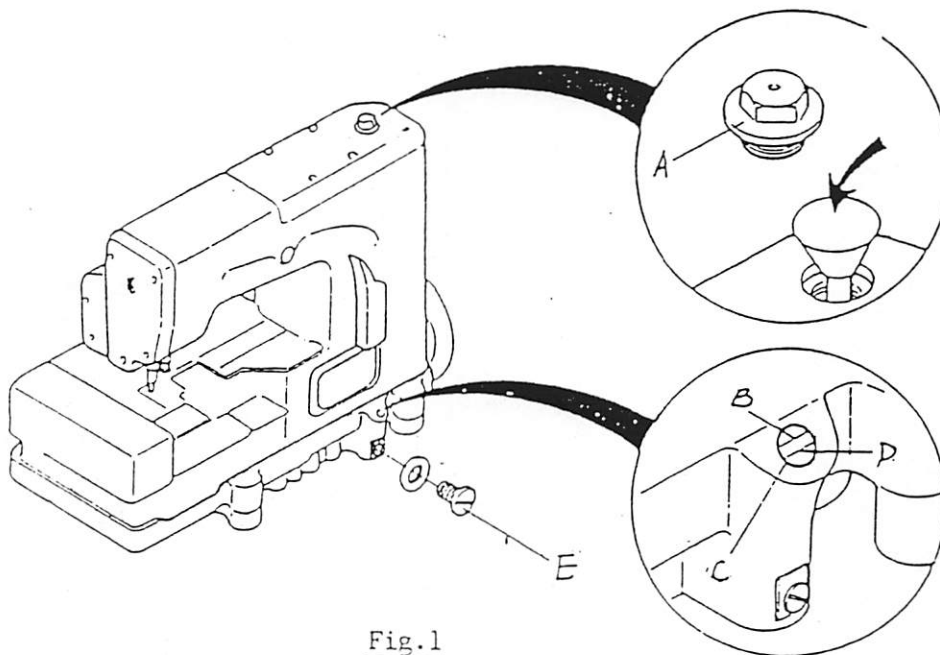

Fig.1
3) Supplying/Draining oil (Fig.1)